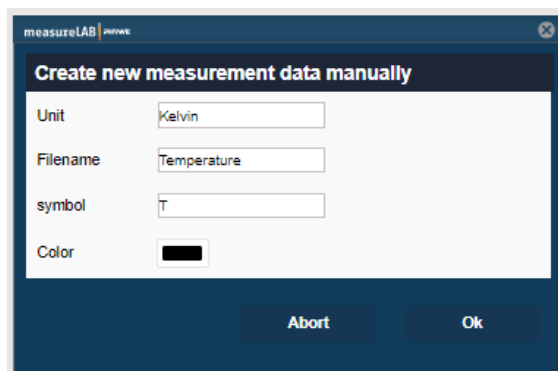

Figure 20: Create your own measurement files
Next to recorded measurement data, you might want to create your own measurement files (e.g. to plot the concentration of different solutions against their pH). To do so, click on the plus symbol (6) in the top bar of the data pool. After designating the respective unit, name, symbol and colour of your measurement file (Figure 20), you can enter the respective values in a table. The created table will appear below your measurement files in the data pool.